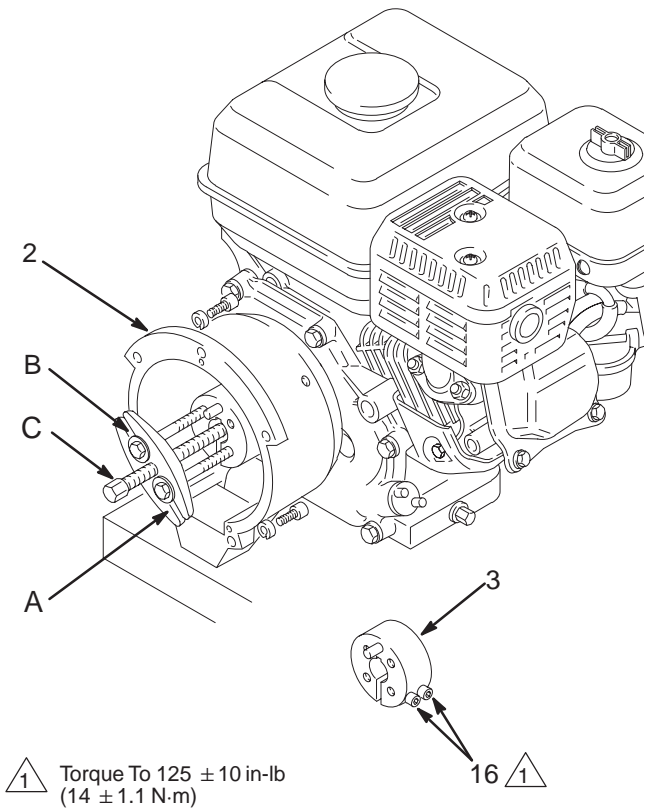

Fig. 20
**NOTE:** Refer to Fig. 20.
1. Loosen the two screws (16) on the clamp (3), working through the slot at the bottom of the clutch housing (2).
2. Install two screws (B) of the tool (A) in two of the threaded holes in the clamp. Tighten the screw (C) until the clamp comes off.